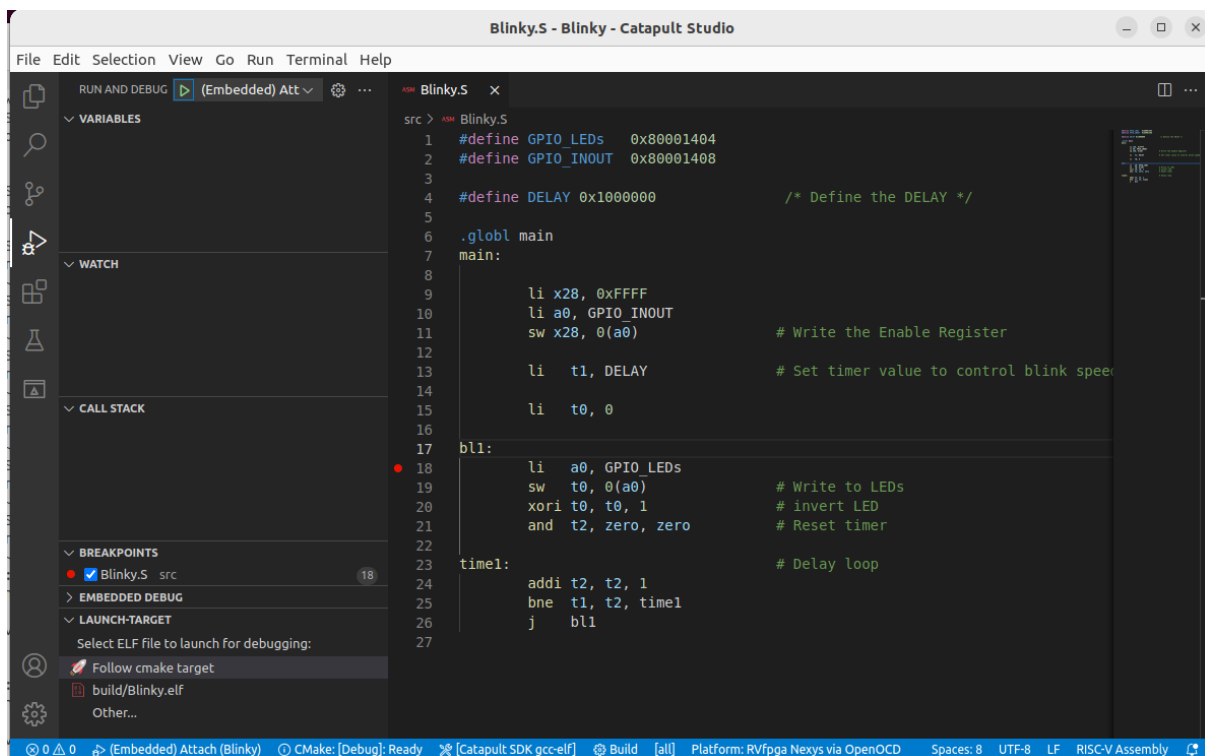

Figure 43. Setting a breakpoint in blinky.S
10. Establish a breakpoint by clicking to the left of line number 18. A red dot will appear and the breakpoint will be added to the BREAKPOINTS tab (see Figure 43).